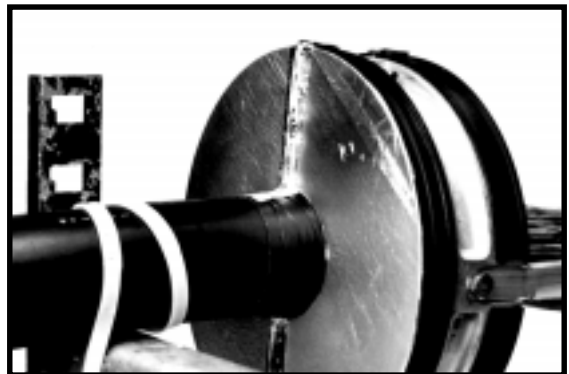

FIGURE 20 - APPLYING HEAT SHIELD MATERIAL TO SEAM
6.18 Cover outside seam of end plate with 1-1/2" (38 mm) wide heat-shield tape. Apply tape to one side of seam first, then allowing room for LOCK-TAPE strips to expand, apply to other side of seam. Use sufficient tape to extend 1/6" to 1/4" (.62 cm) onto circumference of the end plate and 1" (25 mm) onto the cable. (Figure 20)